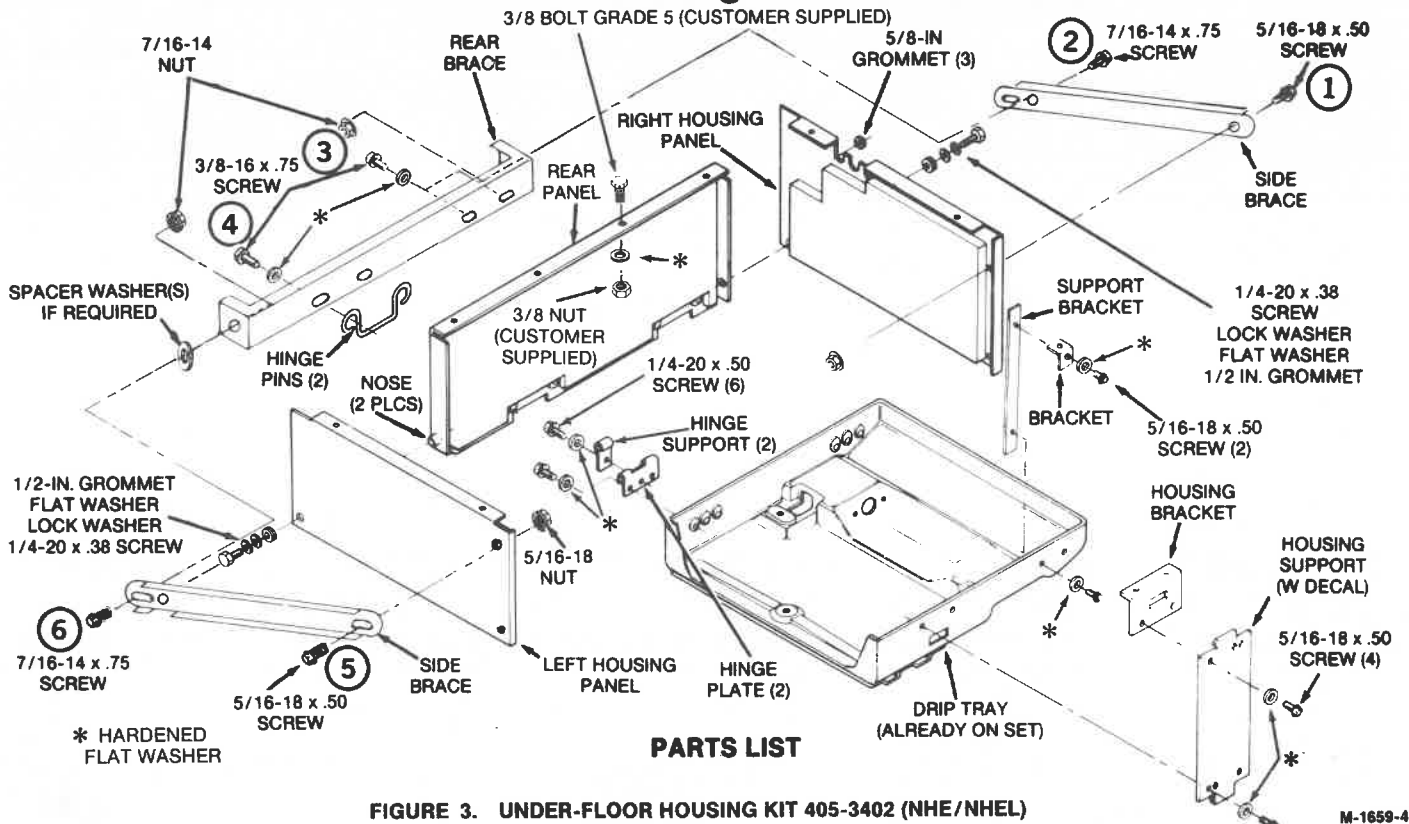

FIGURE 3. UNDER-FLOOR HOUSING KIT 405-3402 (NHE/NHEL)
4. Fasten the rear brace and hinge pins from the kit to the rear panel using the 3/8-16 x 0.75 screws and flat washers (4). Center the rear brace and secure finger tight only at this time.
5. Attach hinge plates (2) to drip tray using only the four outside hinge plate holes. Secure with the 1/4-20 x 0.75 inch screws and flat washers (4) to the recommended torque.
- E. NHE/NHEL Only: Bracket for support bracket (Figure 3).
- B. **For NHE/NHEL only:** See Figure 3. For side brace used on the left side, grommet on housing panel goes through brace hole cutout. The right brace goes completely above grommet on panel.
15. Attach hinge supports to hinge plates using 1/4-20 x 0.75 inch screws and flat washers (2). Tighten to the recommended torque.
16. Install the housing support to the drip pan using 5/16-18 x 0.75 screws and flat washers (2). Do not tighten mounting screws at this time.
17. Lift the generator set to hook up the housing support in the slot of the housing bracket. Secure with the 5/16-18 x 0.75 screws and flat washers (2) to the housing support bracket. Tighten the screws at the top and bottom of the housing support to the recommended torque.
18. **NHE/NHEL only:** Install the support bracket to the bracket and drip tray, as shown in Figure 3, using 5/16-18 x 0.75 screws and flat washers (2). Tighten to the recommended torque.